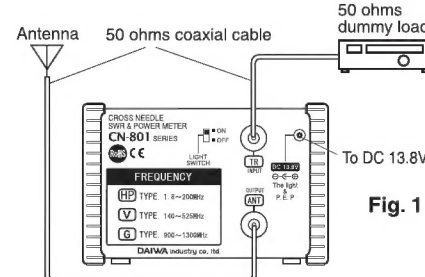

Fig. 1
2. For accurate power measurements, use 50 ohms pure resistance dummy load.(Fig.1)